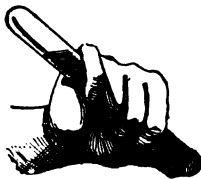

Fig. 8.
6. Divide the sol. into 2 parts, save one for Exp. 10, add to the other its own volume of water, shake it well, (Rule 8, Fig. 8), and taste a drop. Compare the taste with that in 5. What does this indicate of the further division of sugar?